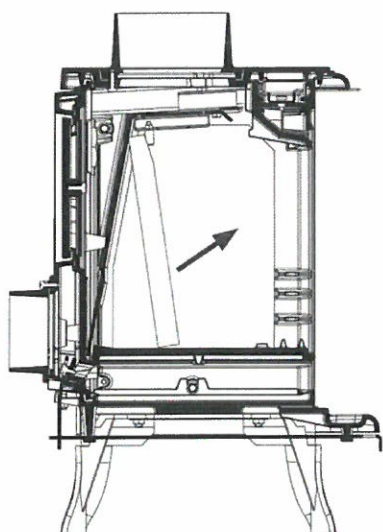

Figure 6a
- 2) See figure 6a. Take hold of the bottom of the rear firebrick, there are cut outs to allow your fingers to grip the brick, slide it towards the front of the stove. It can then be angled to withdraw from the stove.